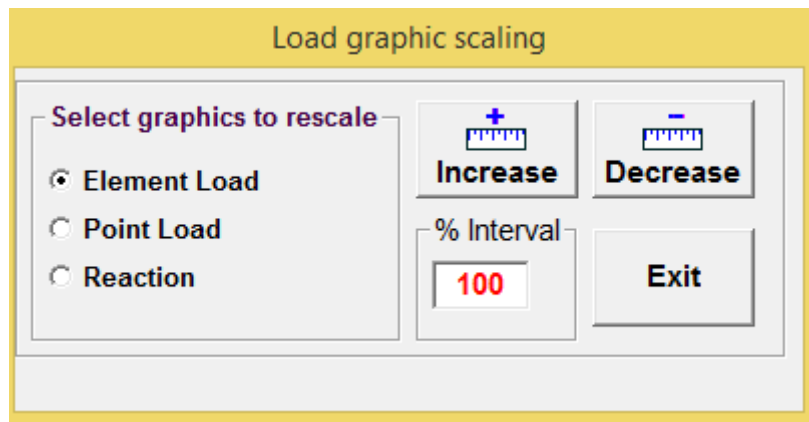

Figure 62
**Step 1:** Click button  Figure 62 will then appear.